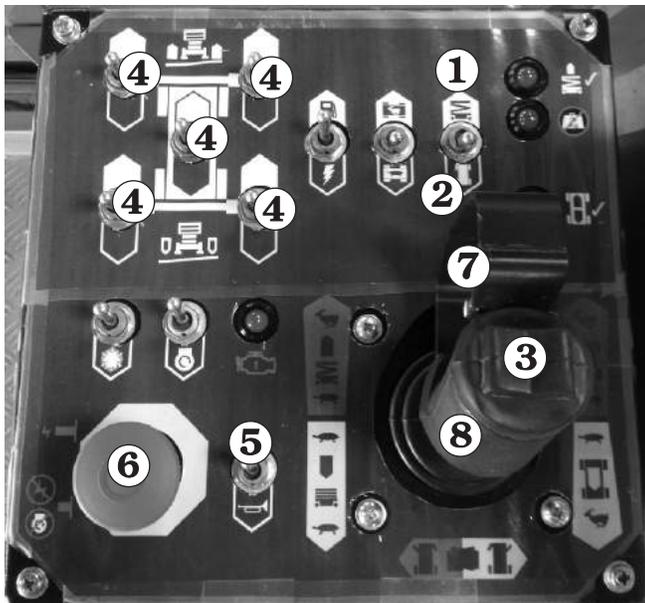

Figure 7.28 - Platform Controls
Check all of the lift ①, drive ②, steer ③, and stabiliser ④ functions from the platform control box to see that they cause the S3970RT / S3370RT / S2770RT to move the way it should (see Figure 7.28). (for correct operating procedures see the Operation chapter).
Press the operator horn ⑤ (see Figure 7.28) to see that it works.
Pay particular attention to the **Emergency Stop** switch ⑥ to see that it turns the engine off when struck (see Figure 7.28).
Pay particular attention to the **Safety Control** ⑦ to see that it deactivates the **Joystick Controller** ⑧ when the safety control ⑦ is released (see Figure 7.28).